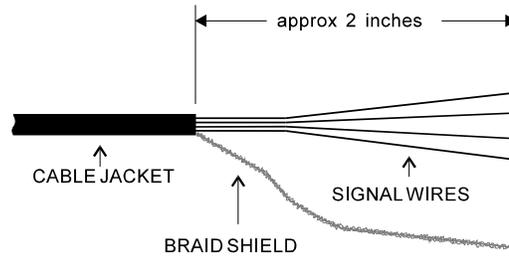

Figure 6: Strain Gage Sensor Cable Stripping
- 1) Strip the sensor cable as shown in Figure 6 below. Be sure not to nick any of the signal conductors or cut the braid shield.